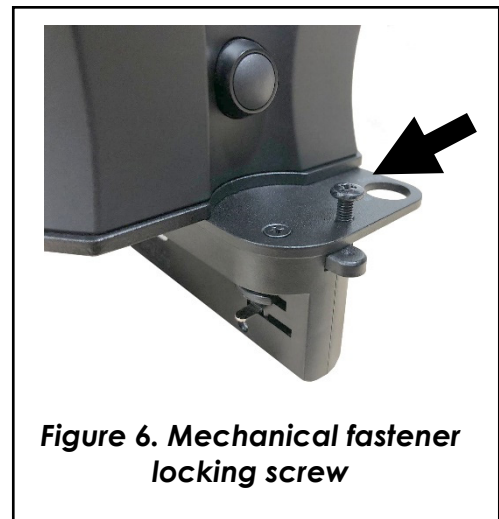

Figure 6. Mechanical fastener locking screw
8. See Figure 6. At the wireless linking button end of the track adapter, tighten the M4 x 6 mm mechanical fastener locking screw that prevents the mechanical fastener lever from being opened accidentally.